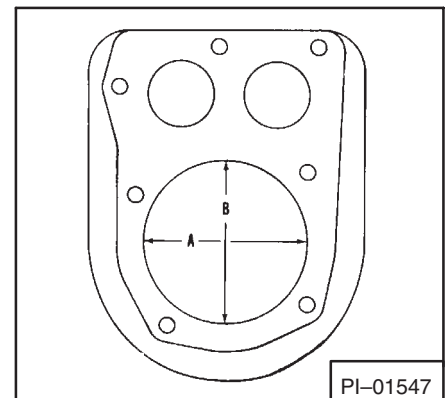

Fig. 40 Measuring Cylinder Bore
- B. Reboring procedure—See Clearance Section for original cylinder bore size. Use an inside micrometer to measure wear then select nearest suitable oversize of either .010, .020 or .030 (Fig. 40). Reboring to one of these oversizes will allow